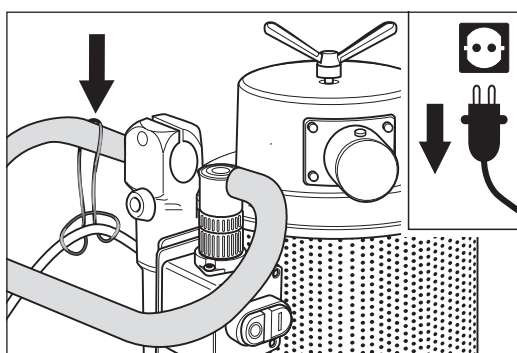

Fig. 14 Mount the strain relief ring on the handle.
- 3 Mount the strain relief ring on the handle (fig. 14).